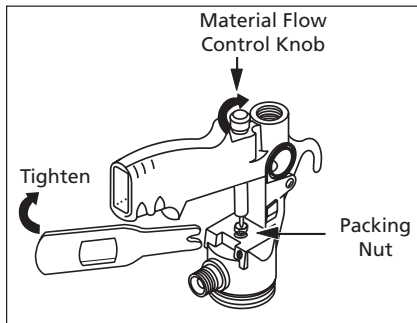

Figure 6 - Adjusting The Packing Nut
Occasionally the packing nut, located forward of the trigger assembly, will require adjustment. The packing nut will also require adjustment when the needle/nozzle assembly is changed (Figure 6).
2. Tighten the packing nut with the wrench by turning the nut clockwise until the needle will not return to the closed position when the trigger is released. Do not overtighten the packing nut. To properly adjust the packing, the nut should be tightened no further than is required to stop the needle from returning. (See Figure 6).